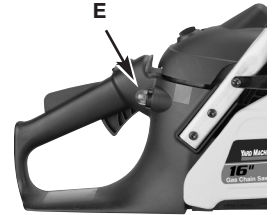

Fig. 6
6. Push the primer bulb (E) 10 times. (Fig. 6)